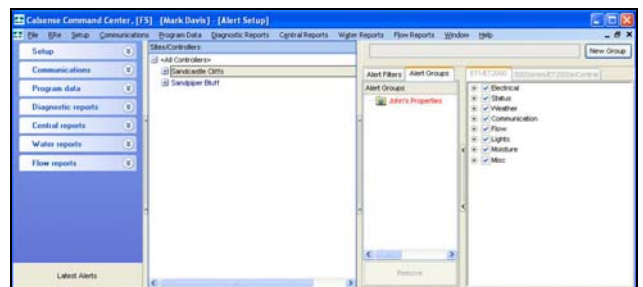

Figure 8.6.3
- The group name will appear in the “**Alert Group**” section (Figure 8.6.3).